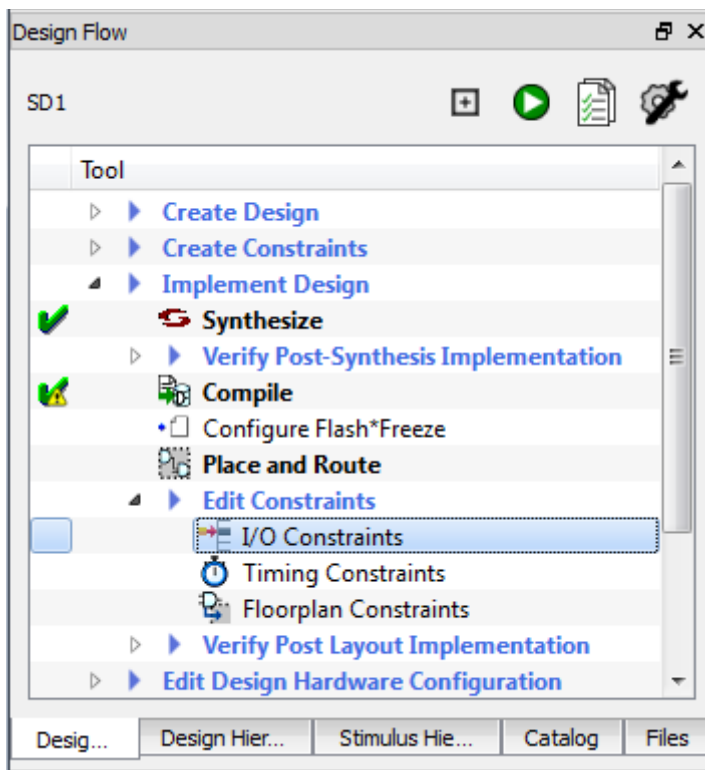

Figure 3 • I/O Constraint Editor Option part of the Design Flow
This option is available in the I/O Constraints Editor which can be accessed from the Design Flow window, as shown in Figure 3 on page 13. This is done in the very early stages of the design cycle.
1. After finishing the Compile stage, select the **I/O Constraints** option from the Design Flow window, as shown in Figure 3.